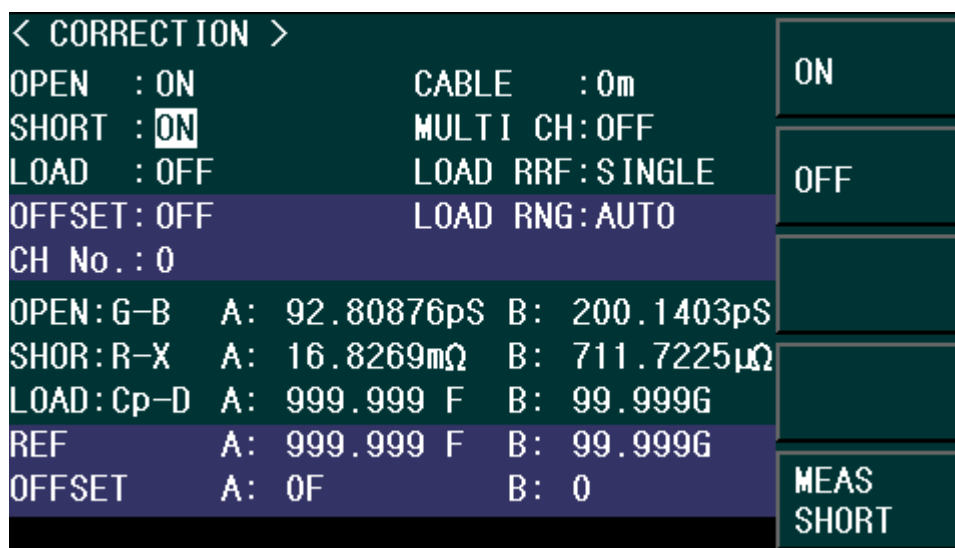

Figure 3-9 Screen upon completion of measuring data for SHORT correction
Step 2: Press the CORRECTION softkey. The CORRECTION display page as shown in Figure 3-9 appears.
Step 6: When measurement of the data for SHORT correction is successfully completed, the SHORT correction turns to ON (as shown in Figure 3-9).